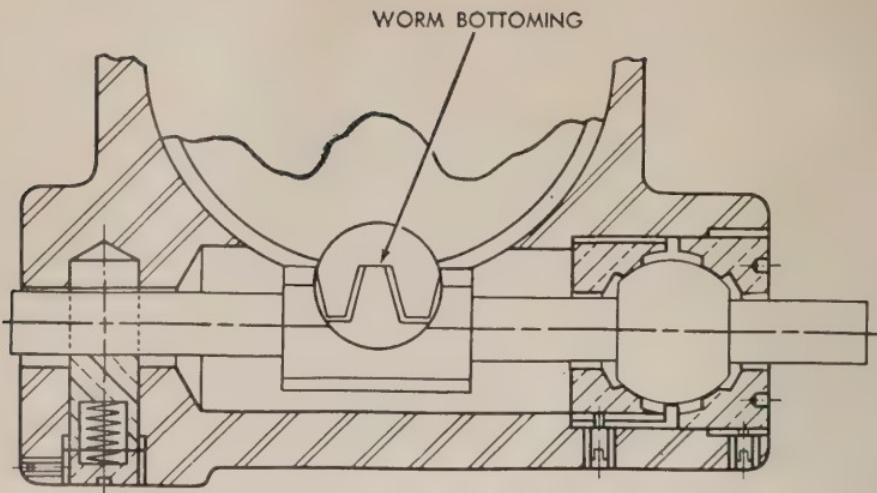

Figure 21. Worm bottoming in worm gear.
c. *Looseness in Gear Meshes.* This type of backlash is due to the slack or looseness between the mating members of a mechanism. To use the example of the worm and worm gear, a close mesh of the worm with the teeth of the worm gear is obtained by means of pressure against the worm shaft from a spring and plunger. If the teeth are not firmly in mesh, there may be rotation of the worm without a corresponding movement of the worm gear. This condition may be due to a weak plunger spring that does not force the worm all the way in or that permits it to ride out instead of turning the worm gear (fig. 20). It may be due to burs or irregularities on the plunger or its housing that do not permit the plunger to bear strongly on the worm shaft. It may be due to the fact that the worm and worm gear are so badly worn that the worm shaft bears on its housing, and the worm is thus prevented from meshing fully with the worm gear. The lost action, or slack, may also result from "bottoming," which prevents full mesh of the teeth. "Bottoming" is the condition that exists when the crests of the teeth of one member bear in the troughs of the other (fig. 21).